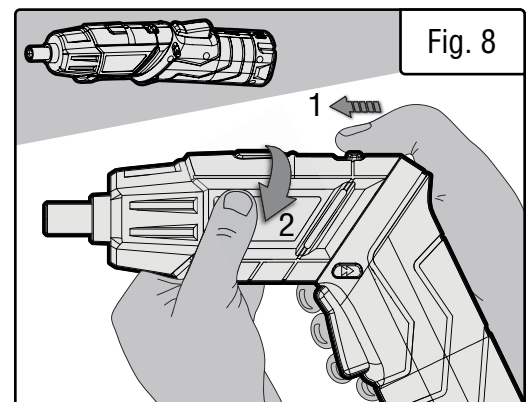

Fig. 8
2. Slide the rotation lock button forward with your thumb (Fig 8 - 1). As the button is pushed forward, use your other hand to twist the upper portion of the screwdriver (Fig. 8 - 2).